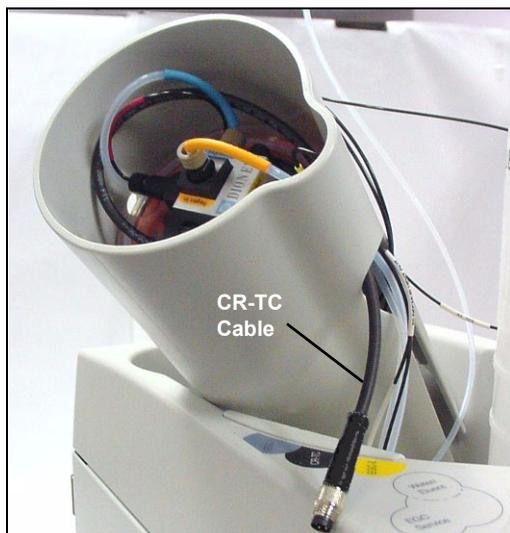

Figure B-32. Installing the CR-TC
6. Feed the CR-TC cable through the slot on the side of the EGC holder (see Figure B-32).